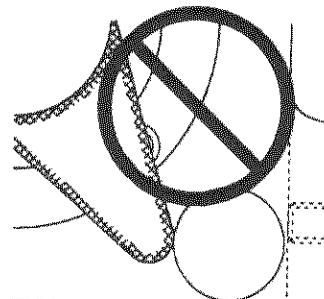

Fig. 2
■ The shaded and framed portion indicates the reaction arm of the Nutrunner. Proper application is shown in Fig. 1. The reaction force arm should be in contact with the reaction force receiver at the flat part, not at the round part of the top end as shown in Fig. 2.